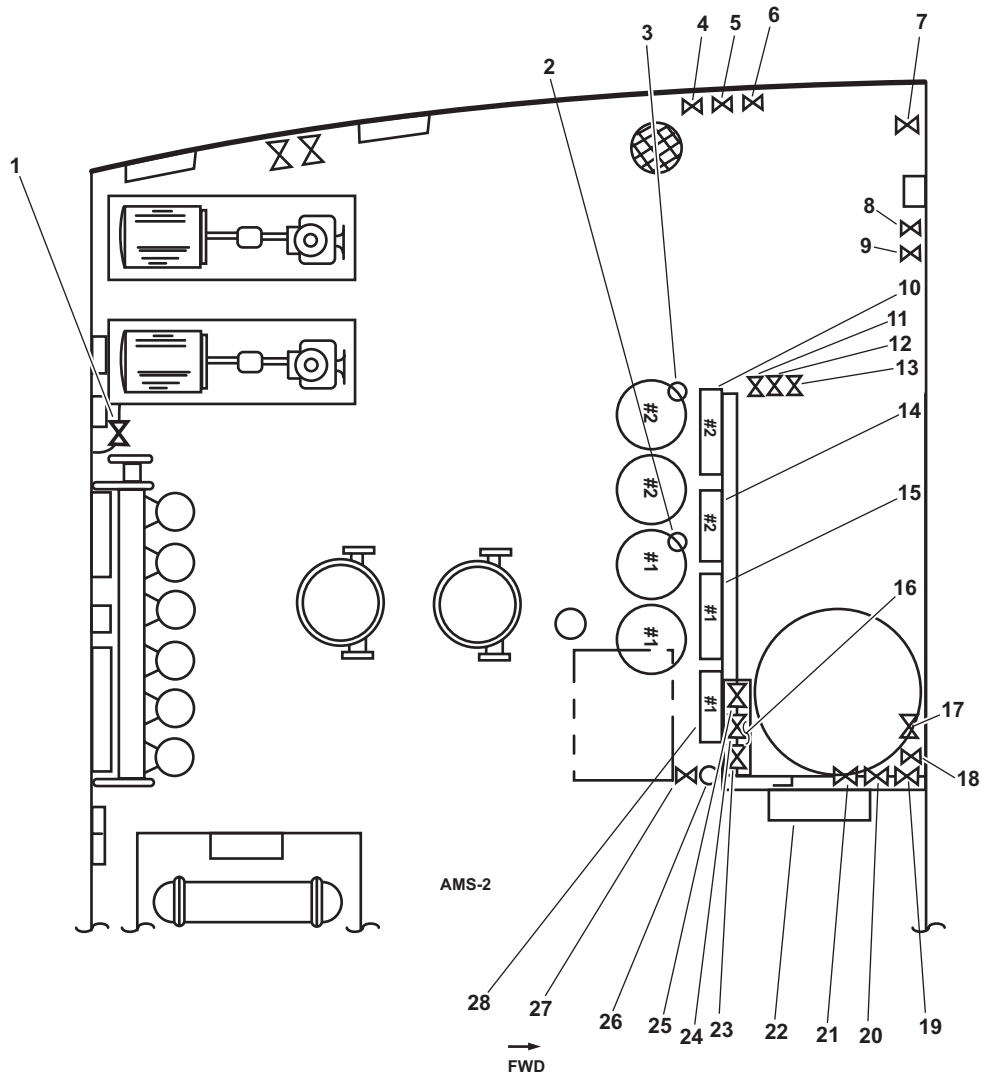

Figure 1. Reverse Osmosis Water Purification Unit (ROWPU) General Arrangement
Table 1. Reverse Osmosis Water Purification Unit (ROWPU) General Arrangement (refer to figure 1)
**Table 1. Reverse Osmosis Water Purification Unit (ROWPU) General Arrangement (refer to figure 1)